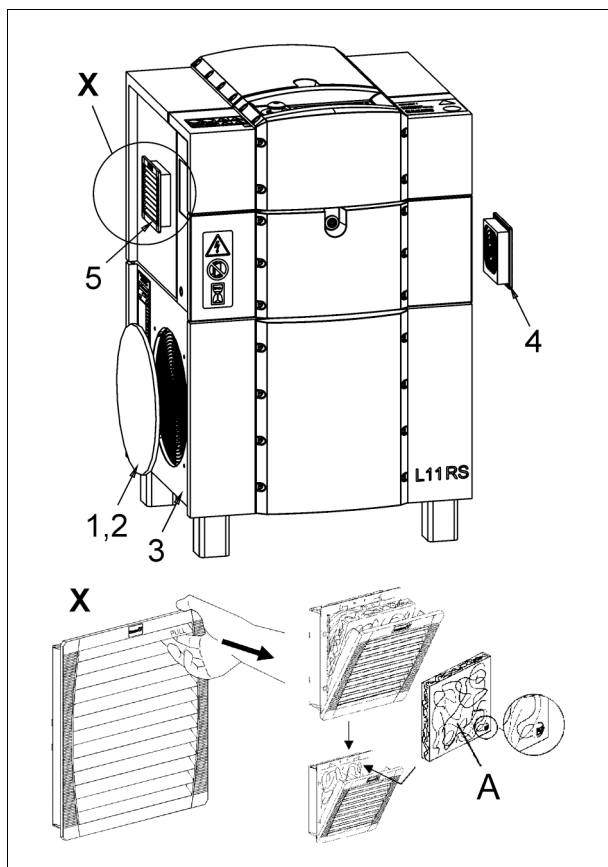

Fig. 23
- Remove mounting bolt (- 2 - Fig. 23).
- Remove filter mat (- 1 - Fig. 23) and clean, exchange if damaged.
- Re-insert filter mat in the bottom access panel (- 3 - Fig. 23).
- Open the louvred grilles of the inlet filter (-4- Fig. 23) and of the outlet filter (-5- Fig. 23).
- Insert the new filter pad into the louvred grille. Ensure that the smooth side (-A- Fig. 23) of the filter pad faces the air inlet side.